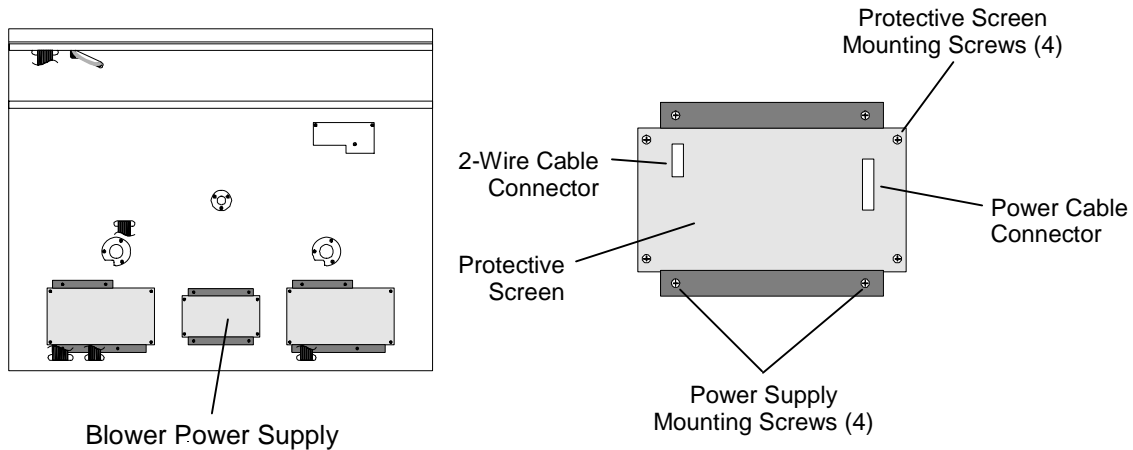

Figure 7-39 Top View of Blower Power Supply (As seen from the rear of the TLS)
Refer to Figure 7-39.
1. Lower the Power Supply down into place on top of the TLS. Make sure that when viewed from the rear of the TLS, the 2 Wire Cable connector is on the left and the Power Cable connector is on the right. See Figure 7-39.